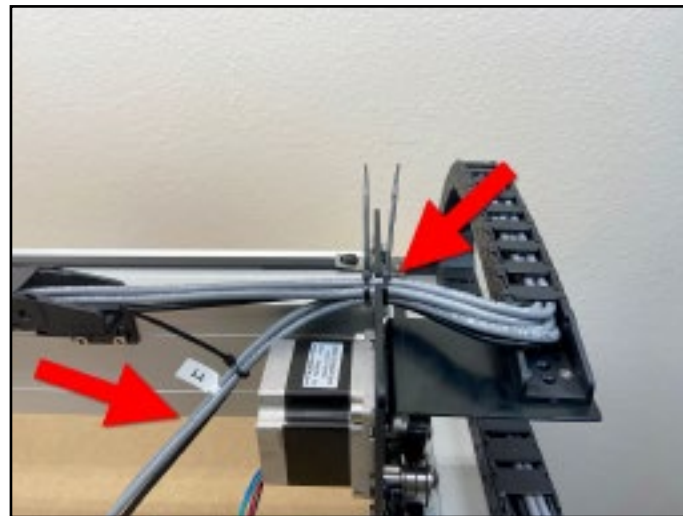

Figure 9-5
2. Use two (2) cable ties, one on each side of the cutout, to secure the cables in place as shown in **Figure 9-5**.